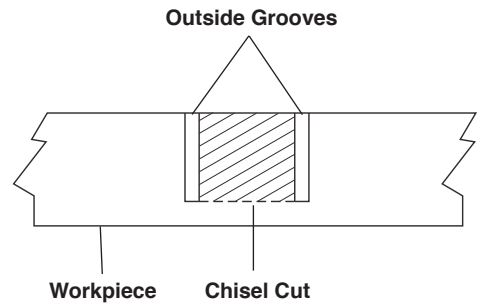

Figure 37. Rough Cut Groove
5. Use a wood chisel or make multiple passes by sliding the wood over to one side to remove the material between the outside grooves (Figure 37).